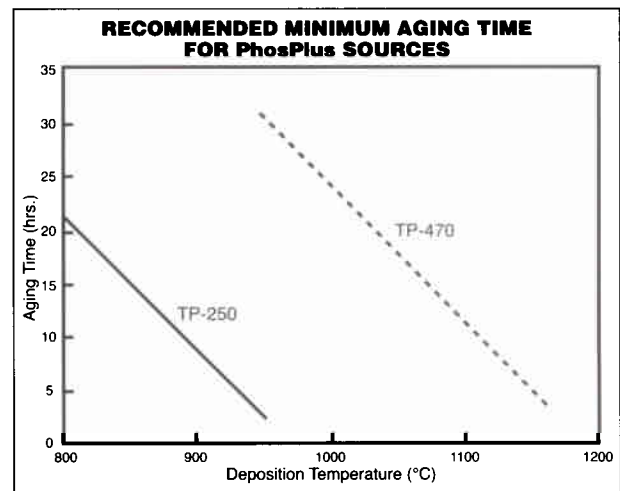

Figure 14
**Preparation:** Before using the PhosPlus sources in production for the first time, they should be held at the intended deposition temperature for a period of time. This will ensure that all moisture has been vaporized, and it enables the sources to achieve a constant  $\text{P}_2\text{O}_5$  evolution rate. The aging period may last from a few hours for high temperature processes to as long as 24 hours for low temperature processes. Figure 14 gives the recommended minimum aging times for the two PhosPlus sources.